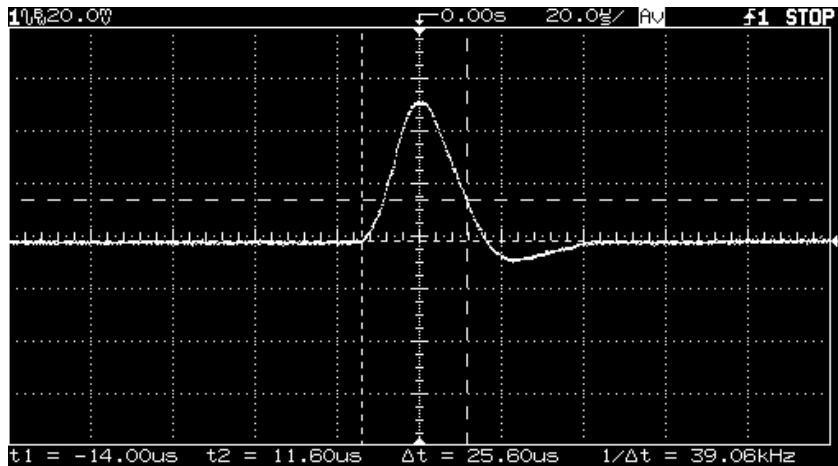

Figure 3-2. Transient Response Time
- 5 Adjust the the oscilloscope to display transients as shown in Figure 3-2. Note that the pulse width ( $t_2-t_1$ ) of the transients at 15 mV from the base line is no more than 50  $\mu$ sec for each of the three outputs.
- 6 Repeat steps (1) through (5) for the remaining outputs.